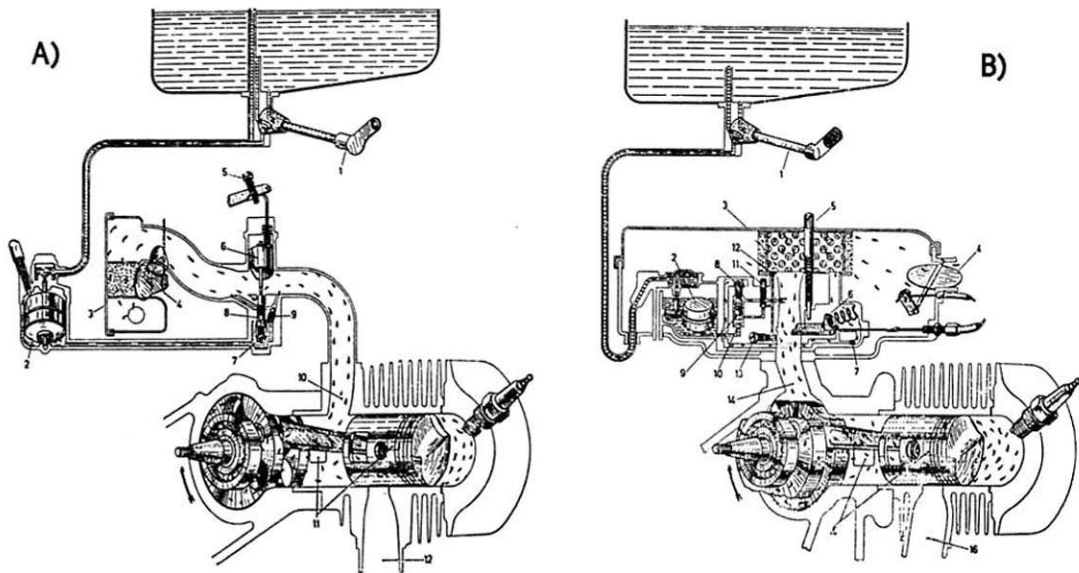

**Fig. 3**
**Engine installation.** The engine is pivoted to the chassis of the scooter through the cylinder arm of the crankcase half, clutch side, provided with a spindle and two rubber bushes (see Fig. 3).
**Handlebars** in light alloy, with arrangement for headlamp and speedometer (see Fig. 3).
**Steering column, suspensions and wheels.** The steering column bears the handlebars, clamped on its top end, and the front wheel swinging hub, pivoted at its bottom end through a stub axle (see Fig. 3).